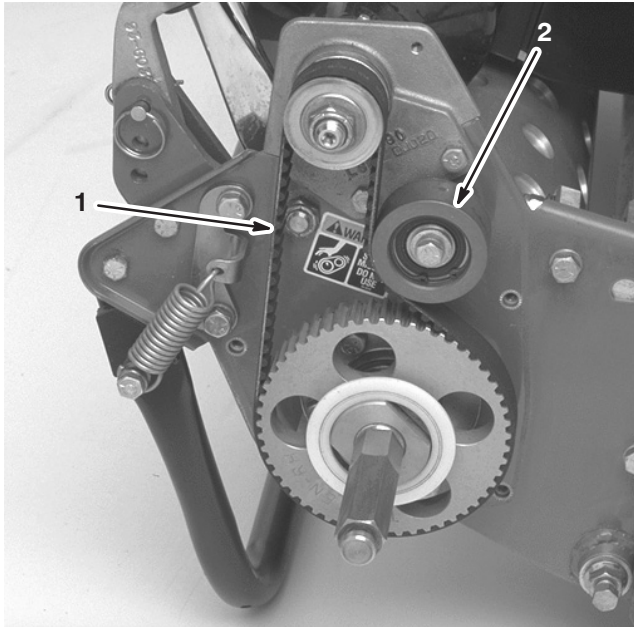

Figure 37
2. Loosen the idler pulley mounting nut and pivot the idler pulley clockwise against the backside of the belt until the desired belt tension is attained (Fig. 37).